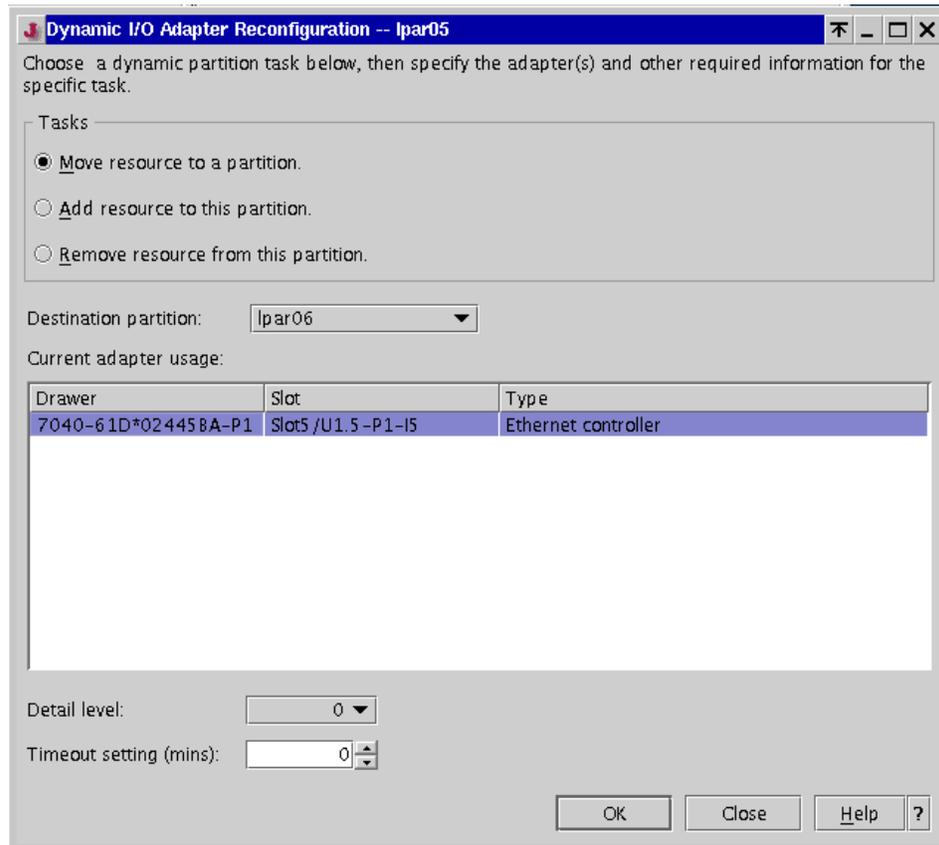

Figure 8-7 Dynamic adapter reconfiguration between partitions
8. The Dynamic I/O Reconfiguration window opens. Select **Move resource to a partition**, as shown in Figure 8-7.